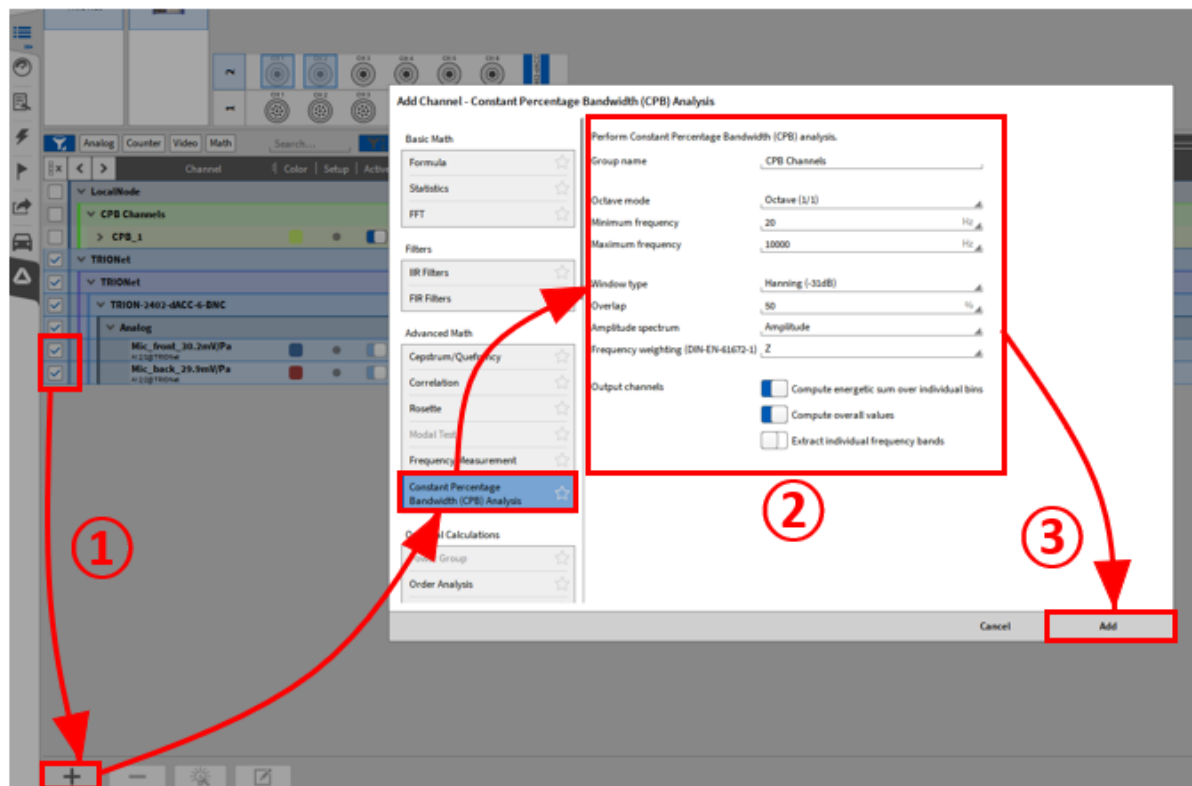

Fig. 7.124: Creating a CPB Analysis
The following options can be selected for a CPB Analysis (see ② in Fig. 7.124):